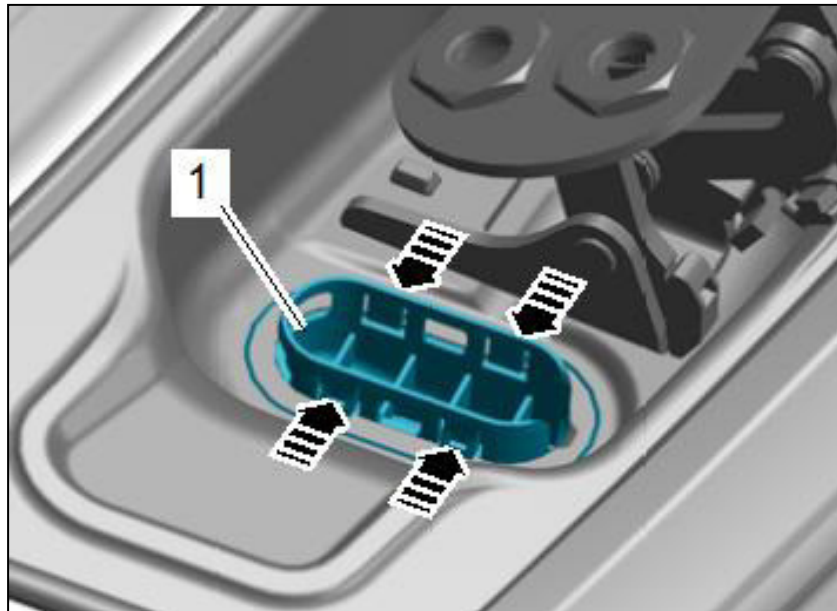

Fig. 2: Unclipping of water collectors
9. Unclip both water collectors -1-. Hereto unlock the clips in indicated direction and press the collectors downwards (fig. 2).